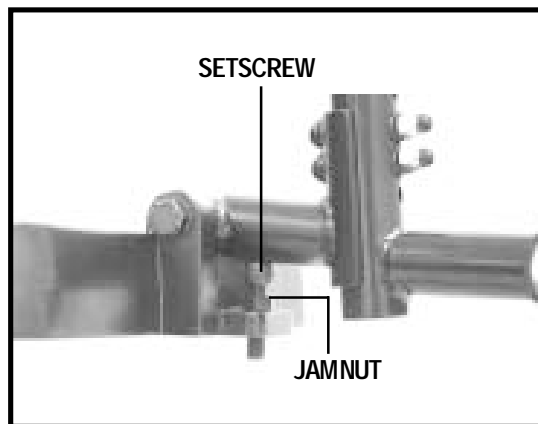

Figure 16. Foot Platform Angle Adjustment
1. Loosen the jam nut. See figure 16.